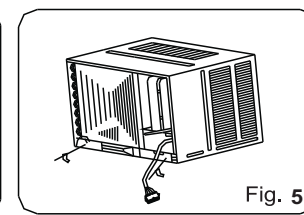

Fig. 5
1. Remove the two fixing screws on the chassis fixing brackets, then remove the chassis fixing brackets (See Fig.5).
5. Install the two chassis fixing brackets using the two fixing screws (See Fig.5).